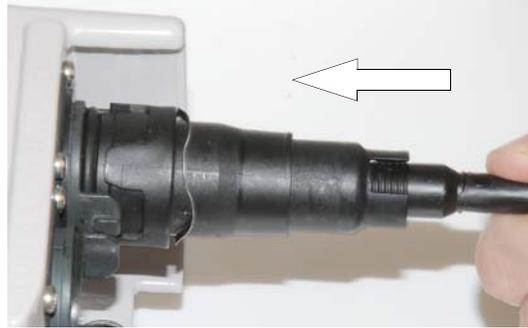

Figure 10
4. Slide the inner housing and ground shield (if present) over the cable and overmolding. Refer to Figure 10.